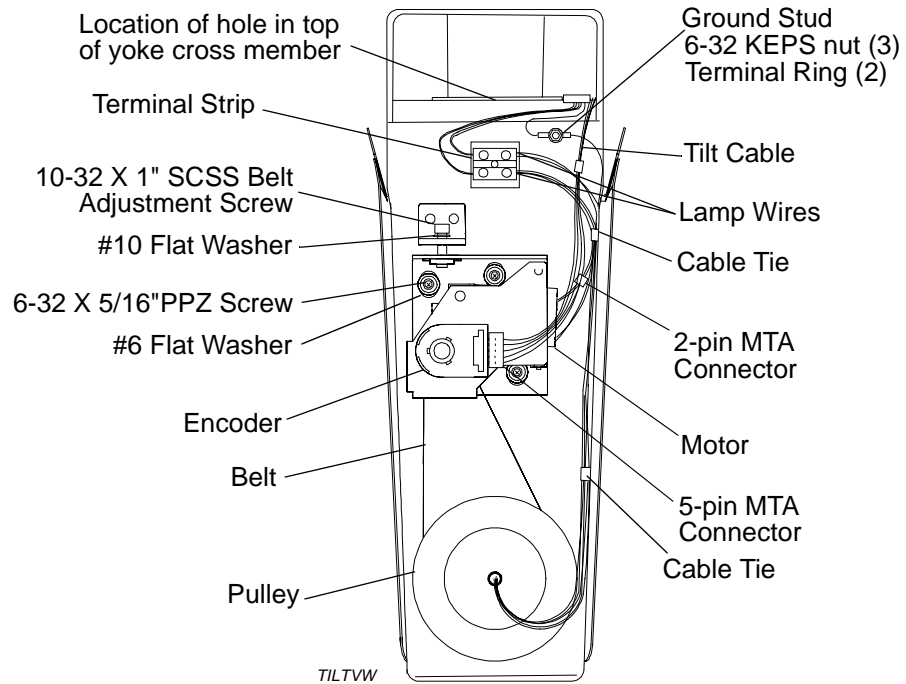

Figure 2-22: Tilt Mechanism Assembly Replacement
- Step 3. Using diagonal cutter, at side of tilt-side yoke leg, remove two cable ties securing lamp wires to cable anchors. **Figure 2-22.**